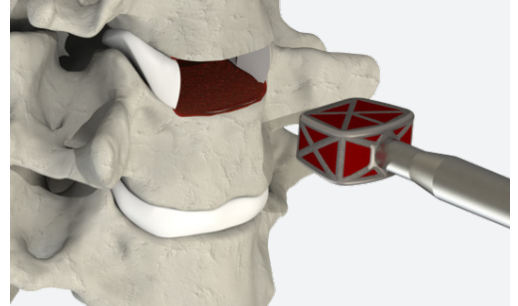
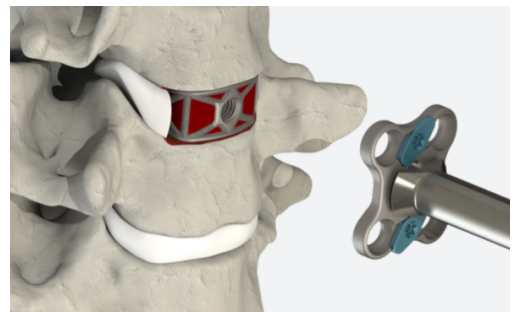

Figure 6
Figure 7
- ▲ The CSTS Interbody should be inserted into the disc space first (Fig. 6). Once the CSTS Interbody is in place, select the proper plate size and configuration to accommodate the patient's anatomy. A properly sized plate will bridge the affected segment(s) without overhanging into the adjacent disc space. The appropriate CSTS Plate may be inserted using the CSTS Plate Holder spanning the operative level (Fig. 7).